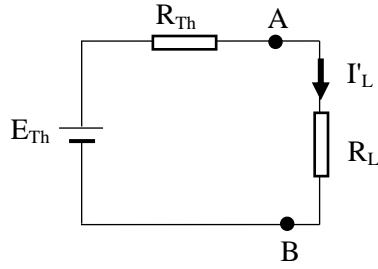

Figure 3.4. Thévenin equivalent circuit.
- 1- Assemble the circuit as shown in the figure 3.4.